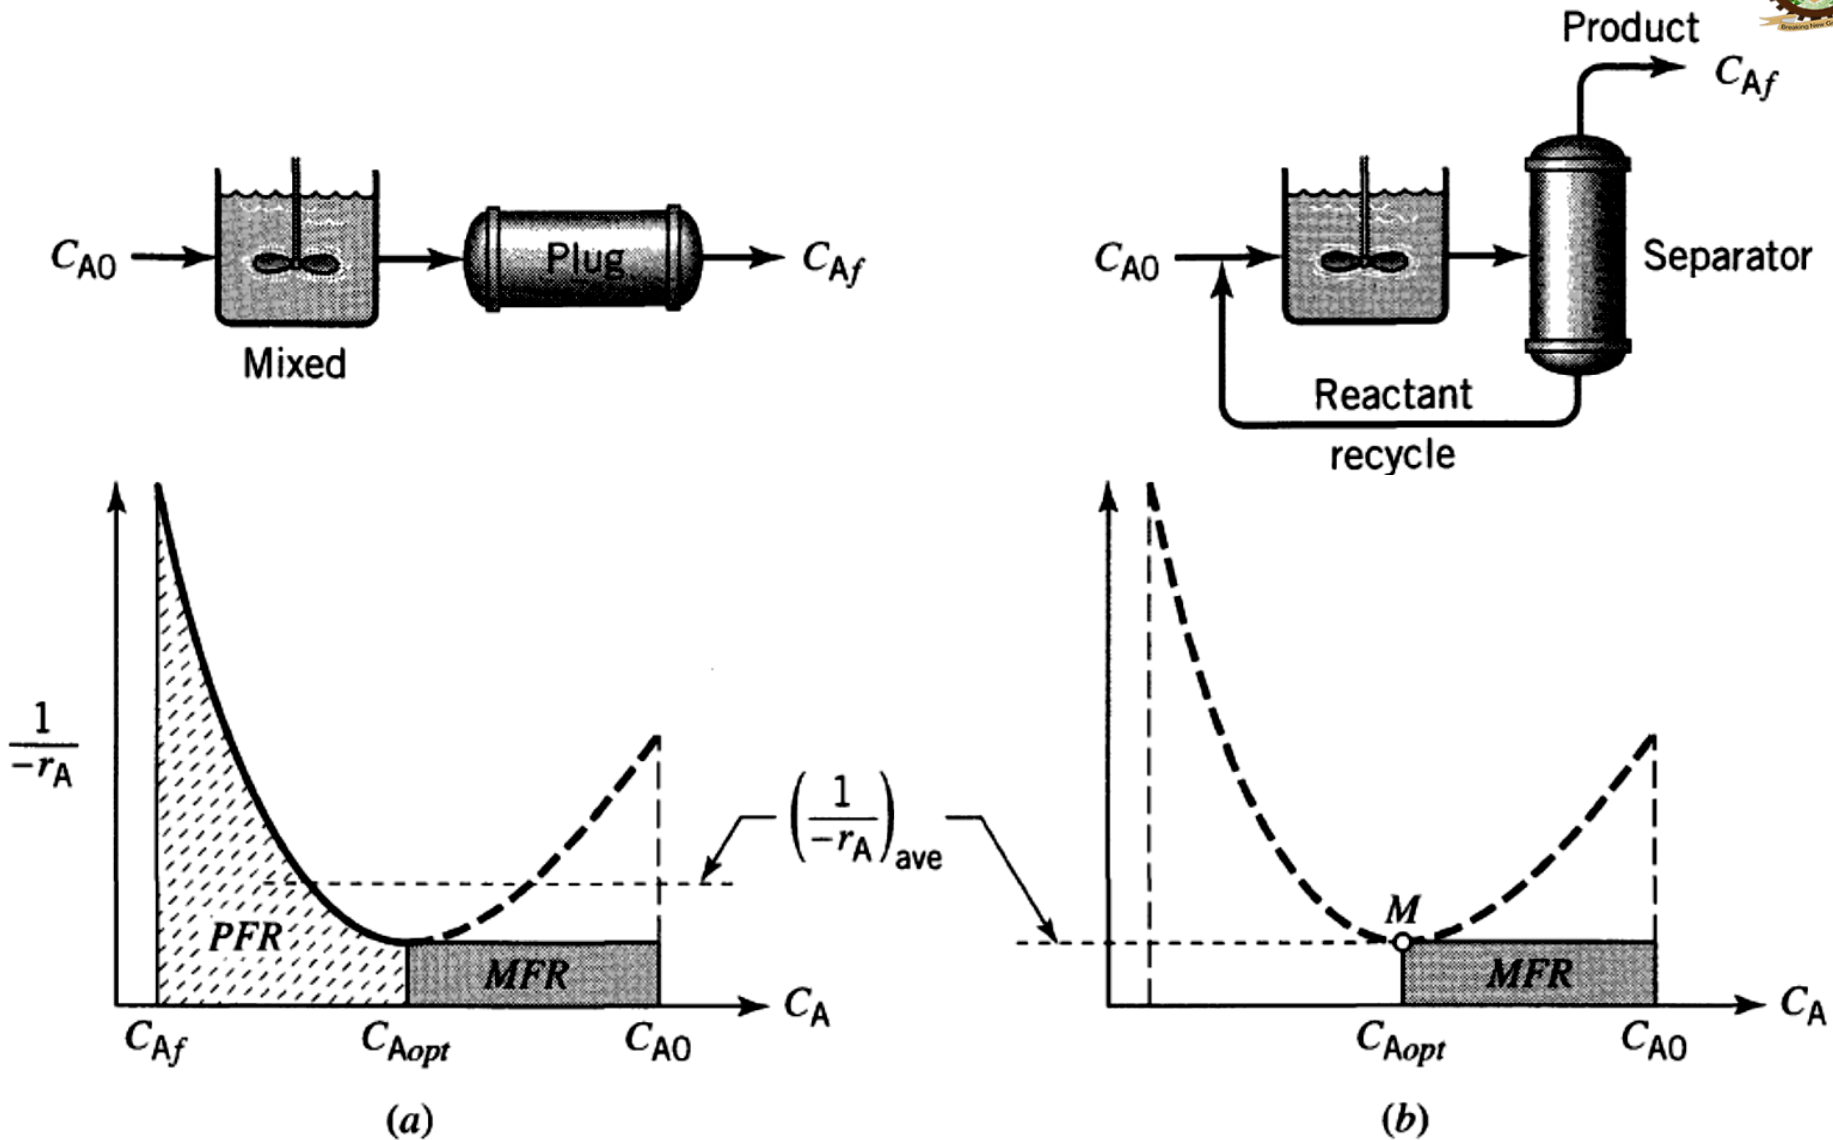

Figure 7-4 (a) The best multiple reactor scheme. (b) The best scheme when unconverted reactant can be separated and recycled.
- In general, for a rate-concentration curve as shown in Fig. 7-4 one should always try to reach point M in one step (using MFR in a single reactor), then follow with PFR or as close to PFR as possible. This procedure is shown as the shaded area in Fig. 7-4a.